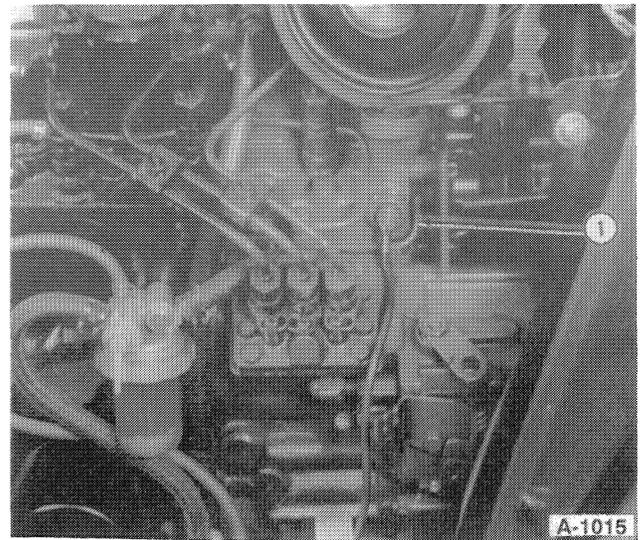

FIGURE 1-44
4. Install the oil pressure switch, Figure 1-44.